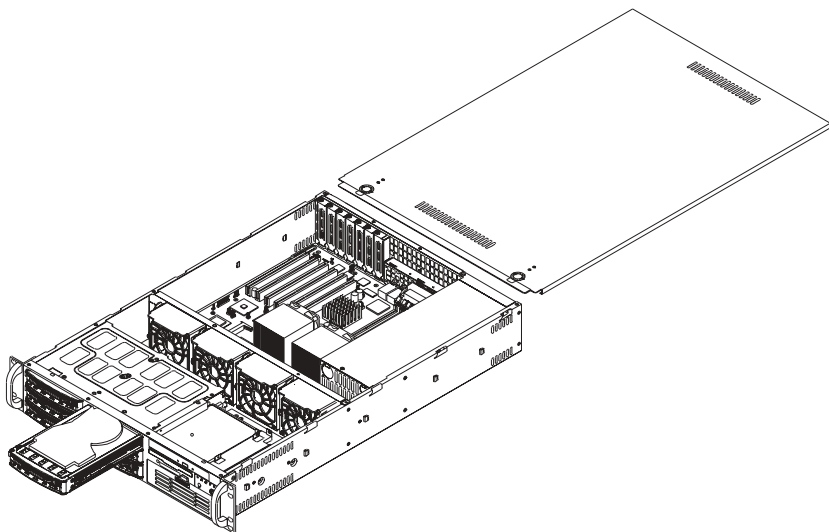

Figure 2-5. Accessing the Inside of the 6023P-8R/6023P-8
1. Accessing the inside of the 6023P-8R/6023P-8 (see Figure 2-5):